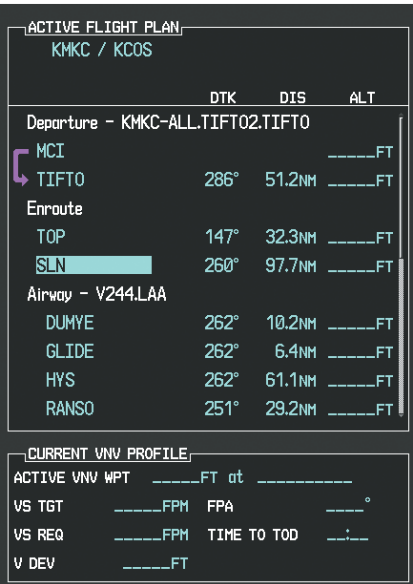

Figure 5-105 TOP Inserted into the Flight Plan
d) Press the **ENT** Key. TOP is inserted into the flight plan as in Figure 5-105.
- e) With SLN still highlighted as in Figure 5-105, turn the small **FMS** Knob clockwise. The Waypoint Information Page is displayed and the **LD AIRWY** Softkey is now available.